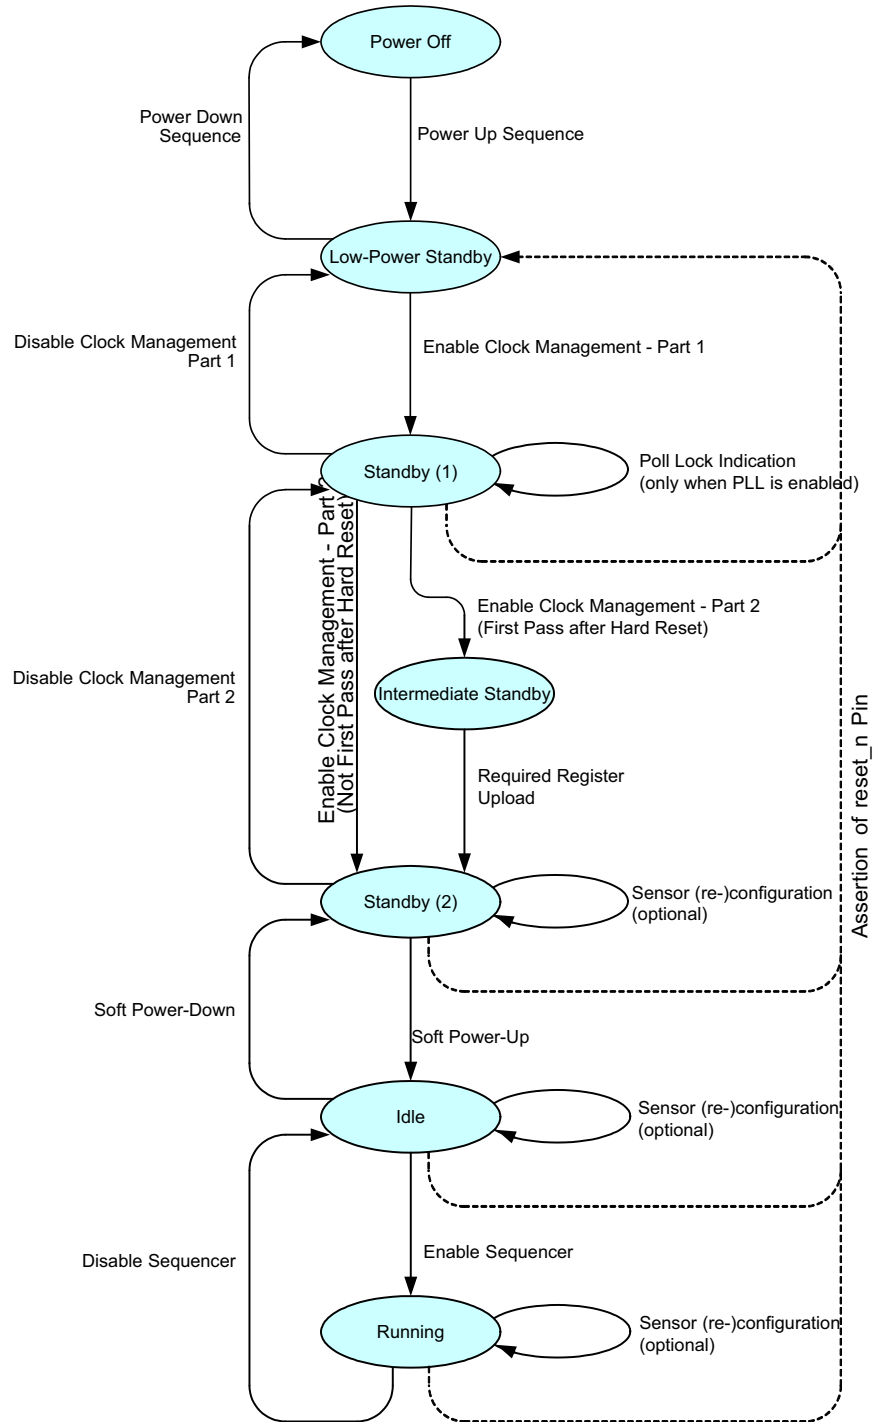

Figure 15. Sensor Operation Flowchart
Figure 15 shows the sensor operation flowchart. The sensor has six different ‘states’. Every state is indicated with the oval circle. These states are Power off, Low power standby, Standby (1), Standby (2), Idle, Running.
Check the PLL_lock flag 24[0] by reading the SPI register. When the flag is set, the 'Enable Clock Management- Part 2' action can be continued. When PLL is not used, this step can be bypassed as shown in Figure 15 on page 14.